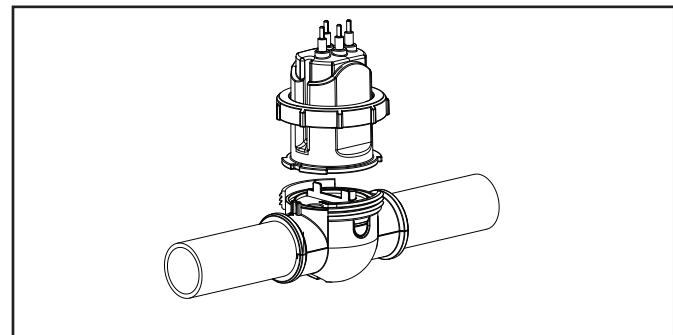

Figure 3. Remove Cell
5. Remove the electrode (see Figure 3).